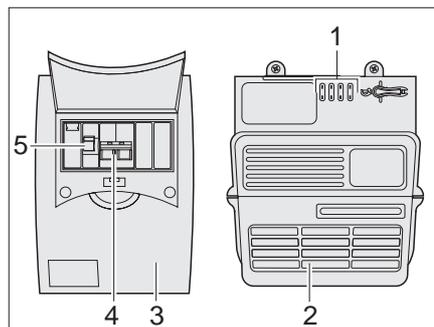

Fig. 94 Power pack and automatic circuit breaker
**Fuse box** The 230 V fuse box (Fig. 94,3) is mounted next to the power pack (Fig. 94,2).
The main fuse (Fig. 94,4) and a residual-current circuit-breaker (Fig. 94,5) are located in the fuse box (Fig. 94).
The residual current circuit-breaker (Fig. 94,5) measures the current flow of the current feed and return lines. If the two lines are equivalent, the residual-current circuit-breaker does not become active. If there is a difference between the lines the breaker interrupts the current flow immediately. This prevents dangerous electrical accidents.
- Switch the main switch (Fig. 94,4) upwards to the "ON" position.
- Switch the residual-current circuit-breaker (Fig. 94,5) upwards to the "ON" position.